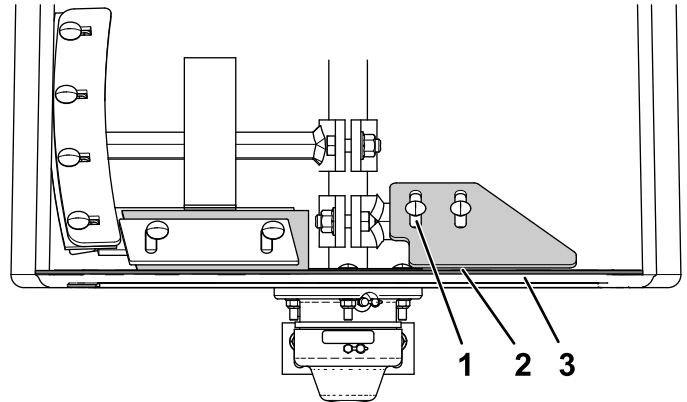

Figure 75
2. Loosen the carriage bolts and flanged locknuts that secure the adjustable end paddle to the fixed paddle. (Figure 75)